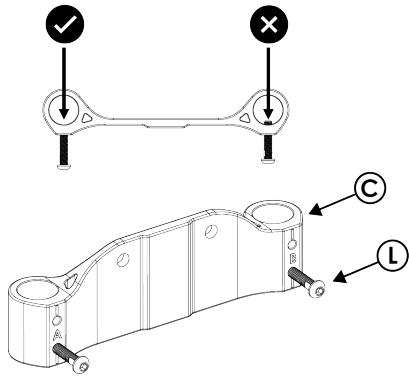

FIGURE 3.0
3. Partially thread **L** into lower holes in **C**. Do not thread too far - **L** should not block assembly of legs. *FIGURE 3.0.*